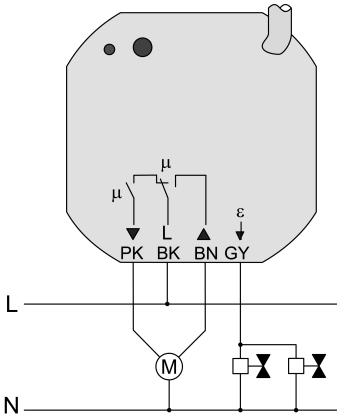

Figure 5
- Connect the load (Figure 5). Use the supplied terminals.